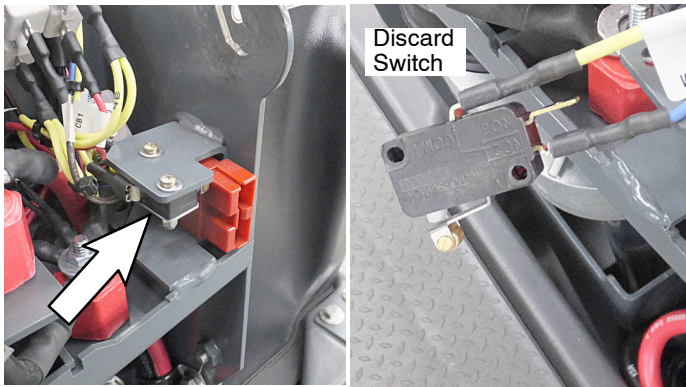

Fig. 6
8. Remove the charger connector interlock switch from machine and discard (Figure 6).